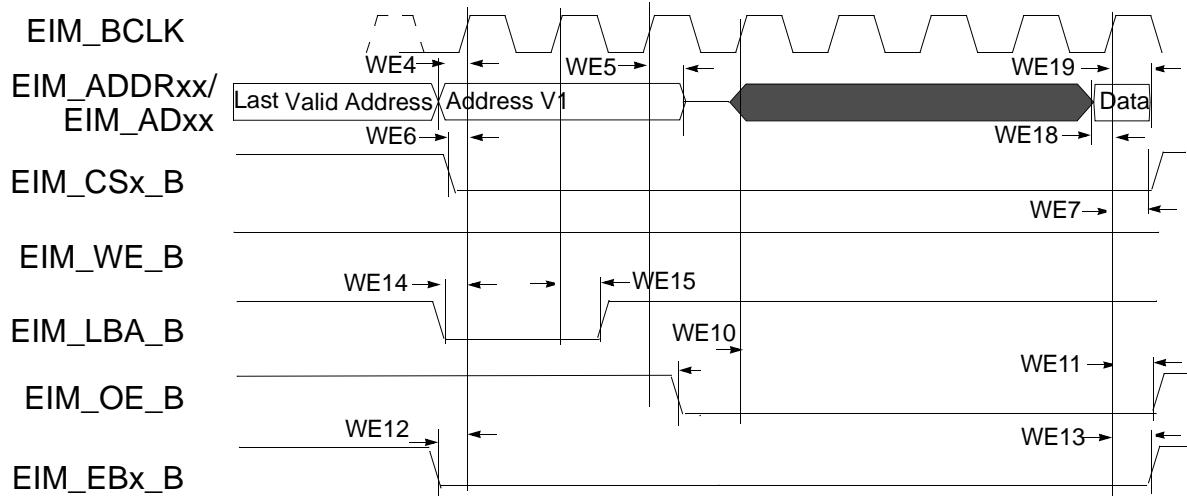

Figure 17. 16-Bit Muxed A/D Mode, Synchronous Read Access, WSC=7, RADVN=1, ADH=1, OEA=0
**Figure 14** to **Figure 17** provide few examples of basic EIM accesses to external memory devices with the timing parameters mentioned previously for specific control parameters settings.